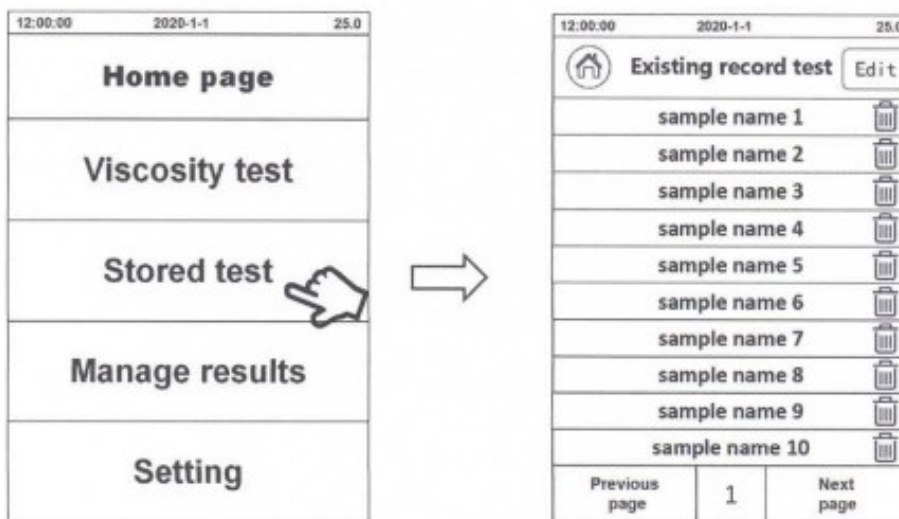

Fig. 24
6.2 View and recall test condition records: After clicking “Stored test”, the stored test records will be displayed on the screen (Fig.24), and select the required test conditions. Click -- “Edit”, the !!!J icon will appear to delete the stored test conditions.